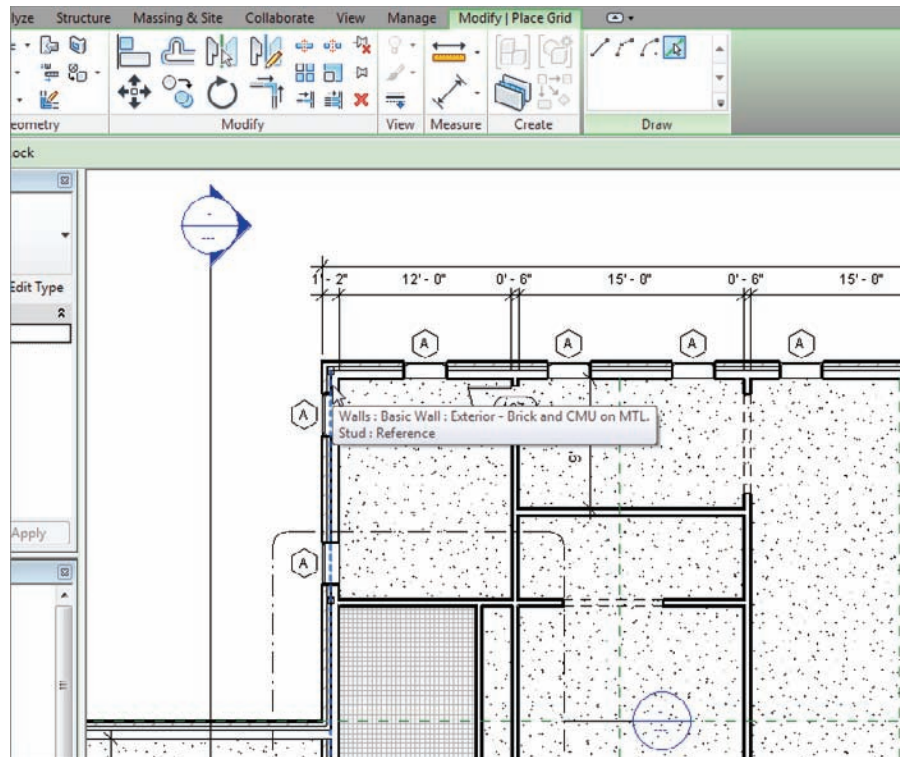

FIGURE 8.14 Adding the first vertical grid by picking the core centerline of the exterior wall
1. Zoom out so you can see the entire east wing, as shown in Figure 8.14.
3. On the Draw panel of the Modify | Place Grid tab, click the Pick Lines icon, as shown in Figure 8.14.
4. Pick the core centerline of the west exterior wall of the east wing, as shown in Figure 8.14.